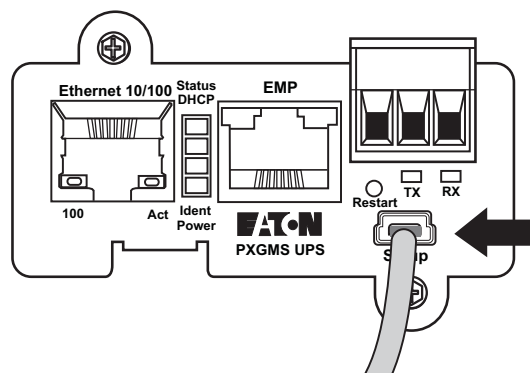

Figure 4. Install the USB Cable
- Plug the USB cable into the Setup port on the card (see Figure 4).